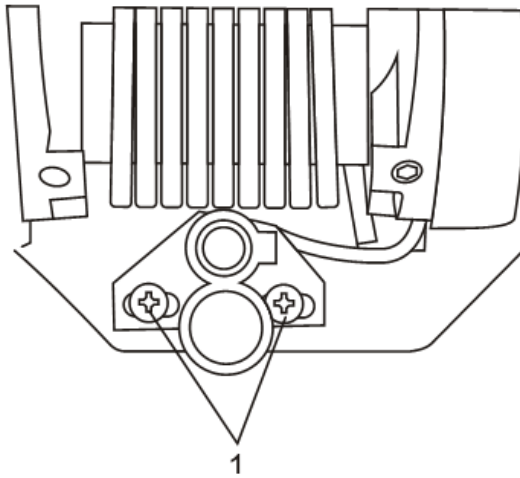

**Fig. 25**
- a) Follow the cutting head movement pattern (3).
- b) Only cut part way through the workpiece Fig. 25. You will need the saw cut for adjusting the laser.
Now that you have made a test cut, the laser will have to be aligned so it is immediately beside the cutting line (Fig. 25). Adjustment will vary depending upon whether the "good piece" is to the left or right hand side of the blade. For purposes of illustration, the "good piece" is to the right hand side of the workpiece (1) as is usually the case for right handed operators. Left handed operators will normally leave the "good piece" to the left hand side of the workpiece (2).